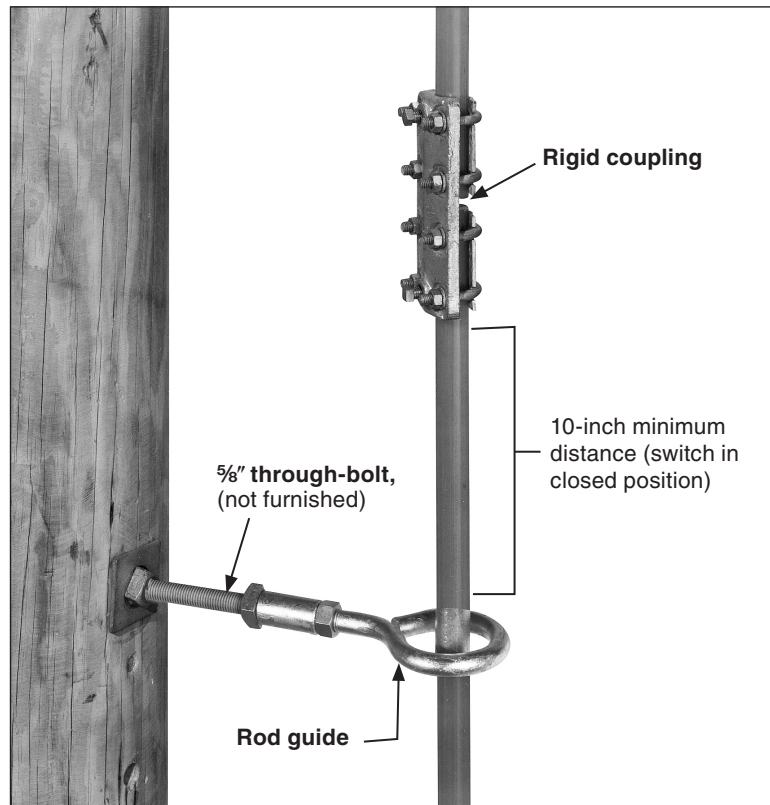

Figure 8. Rod guide for use with  $\frac{3}{4}$ " IPS vertical operating pipe. Maintain 10-inch distance between rod guide and rigid coupling.
- d. Drill an  $\frac{1}{16}$ -inch diameter hole in the pole for each rod-guide mounting location, as indicated on the erection drawing. Position the hole so that it is in line with the vertical operating pipe. Also, where appropriate, position the hole to provide a 10-inch minimum clearance between the rod guide and the rigid coupling immediately above with the switch in the closed position. See Figure 8.
- e. Install the lowest vertical-operating-pipe section by threading one end of the pipe into the coupling on the operating handle. Approximately  $\frac{1}{4}$  inch of thread should extend through the coupling. See Figure 8 on page 16. Tighten the locknut. Attach the upper end of the pipe to the lowest rod-guide coupling. Then, tighten the coupling clamp bolts but do not tighten the associated set screw at this time.